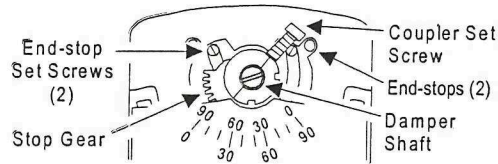

Figure 7: Setting the Rotation Range
If the damper shaft rotation is less than 90°, the stroke of the actuator has to be adjusted with the scale on the actuator cover. (See Figure 7.)
- For a rotation range of 90°, move both end-stop set screws fully up as shown in Figure 7.
- Use a flat-blade screwdriver to loosen the end-stop set screw on the actuator that is closest to the stop gear, and move it in its slot so it is tight against the stop gear. (See Figure 7.)